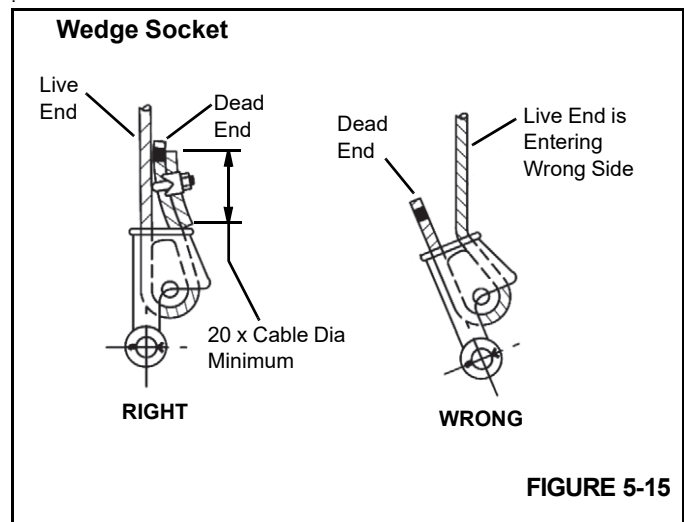

FIGURE 5-15
3. Make sure the live-end (Figure 5-15) of the rope is directly in line with the ears of the socket and the direction of pull to which the rope will be subjected. If the rope is loaded into the socket incorrectly, under a load the rope will bend as it leaves the socket, and the edge of the socket will wear into the rope causing damage to the rope and eventual failure.
4. Insert the end of the wire rope into the socket, form a loop in the rope, and route the rope back through the socket allowing the dead-end (Figure 5-15) to protrude from the socket. Ensure the dead-end of the rope is of